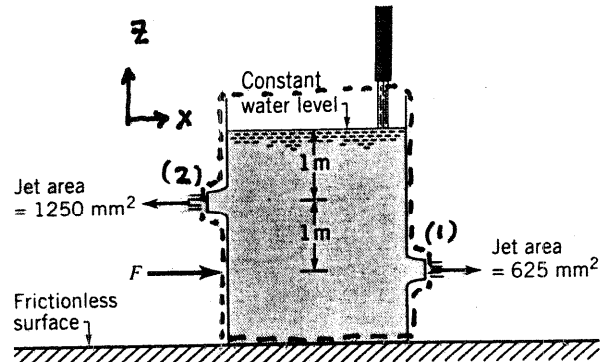

FIGURE P5.56
5.56 Water is added to the tank shown in Fig. P5.56 through a vertical pipe to maintain a constant (water) level. The tank is placed on a horizontal plane which has a frictionless surface. Determine the horizontal force, F , required to hold the tank stationary. Neglect all losses.